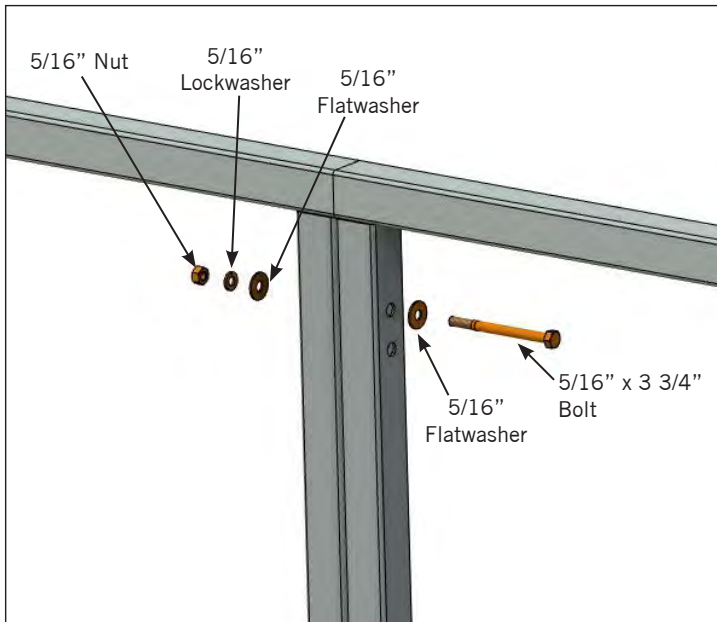

Figure 57. Top Perimeter Guardrail Segment Attachment
2. Secure adjacent rail segments to each other using the 5/16" x 3 3/4" bolts provided. See **Figure 57**.